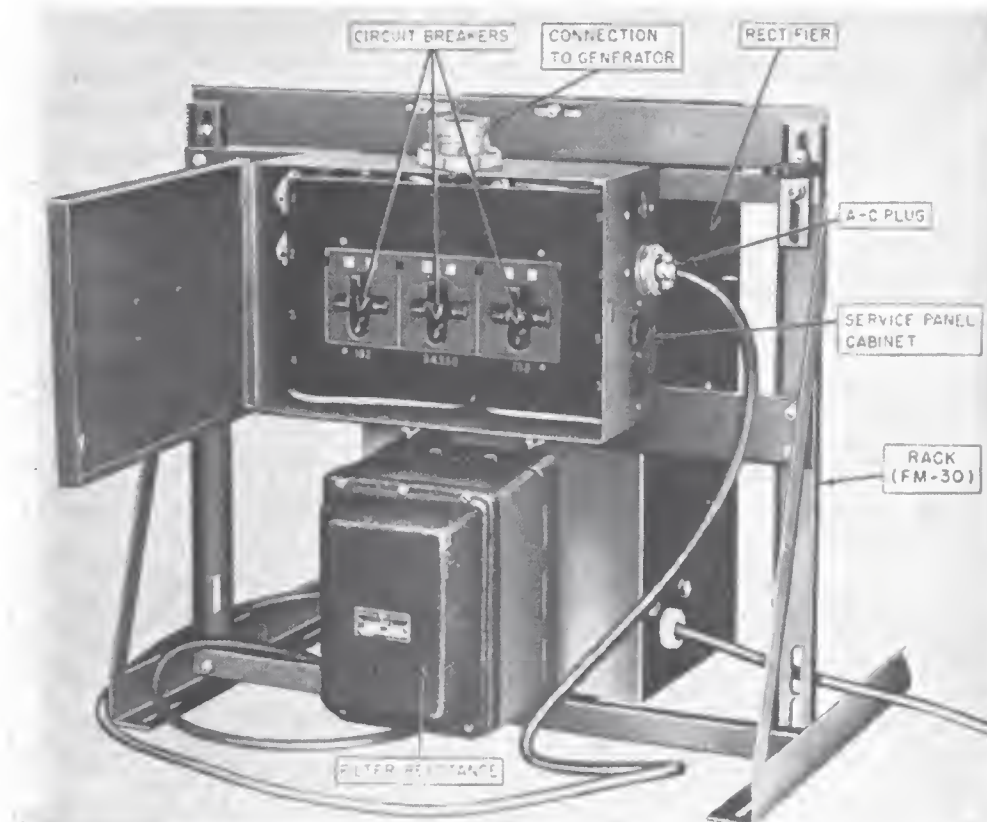

Figure 5-7.—Power service panel, cabinet BE-75.
The power service panel (fig. 5-7) is designated cabinet BE-75. In figure 5-7, it is mounted on a rack (designated FM-30) along with a rectifier and filter reactance. Cabinet BE-75 contains two sockets and two outlets for the connections of the rectifier and the other power cords. Three circuit breakers control the current to the sockets.
5. Mount rack FM-30 (shown in fig. 5-7) on top of control panel BD-98; secure with four mounting bolts.